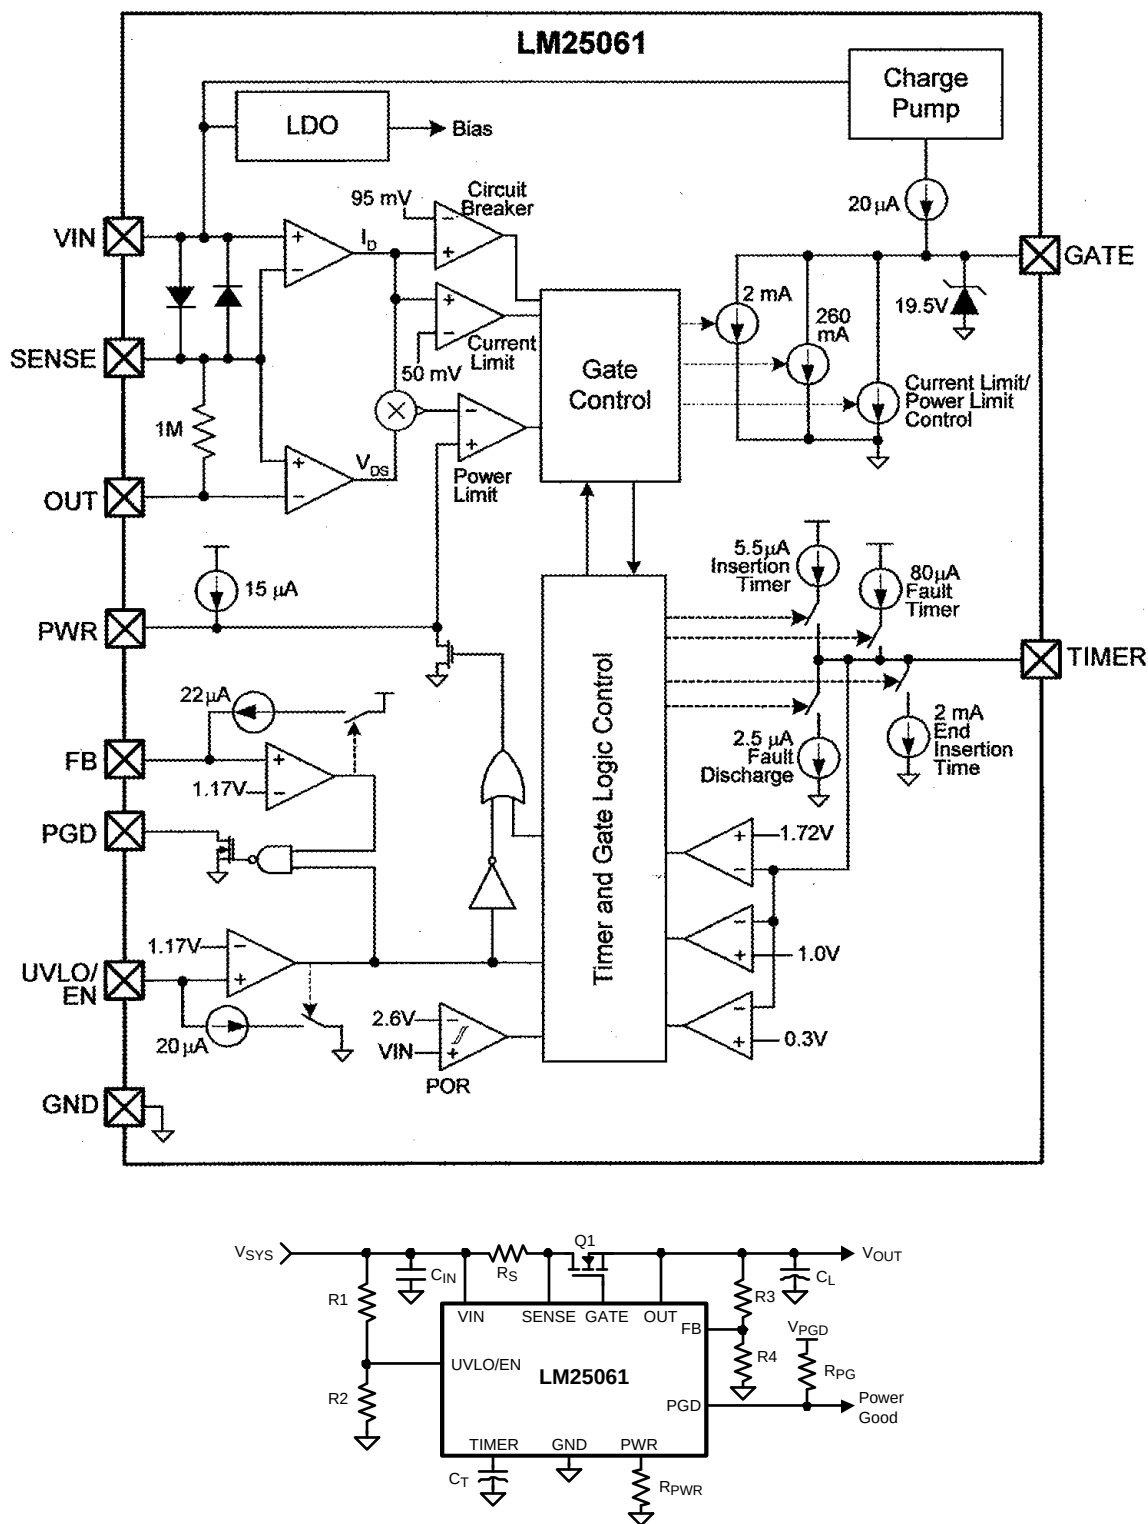
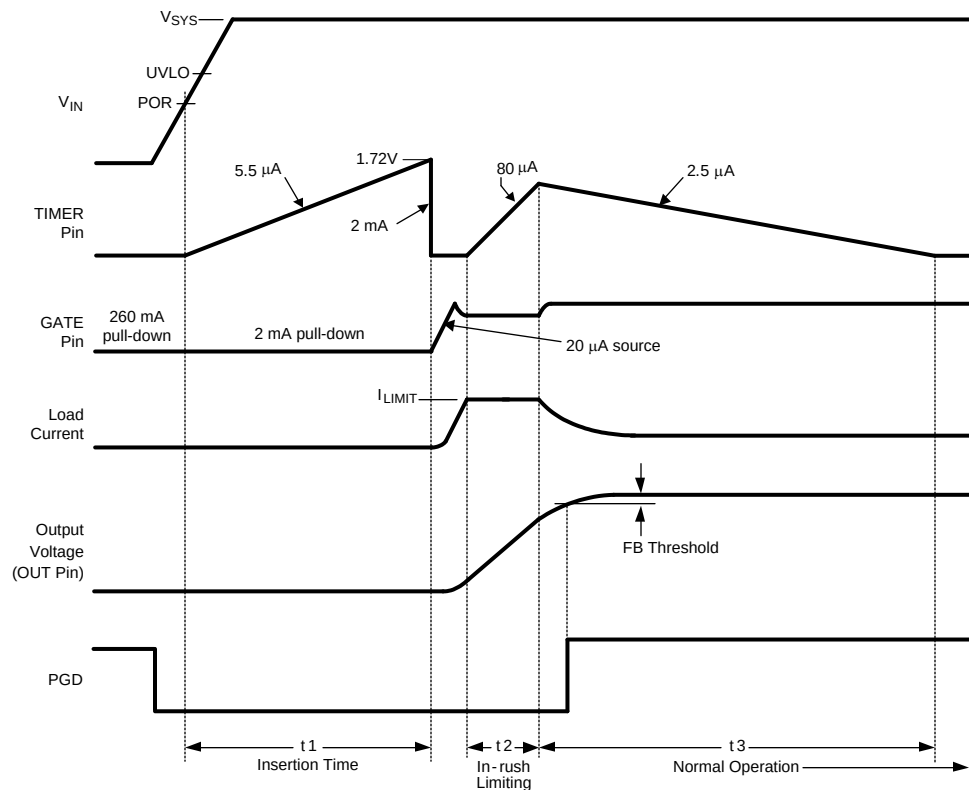

Figure 21. Basic Application Circuit
Figure 23. Power Up Sequence (Current Limit only)
The VIN operating range of the LM25061 is +2.9V to +17V, with a transient capability to 20V. Referring to the Block Diagram and Figure 21 and Figure 23, as the voltage at VIN initially increases, the external N-channel MOSFET (Q1) is held off by an internal 260 mA pull-down current at the GATE pin. The strong pull-down current at the GATE pin prevents an inadvertent turn-on as the MOSFET's gate-to-drain (Miller) capacitance is charged. Additionally, the TIMER pin is initially held at ground. When the VIN voltage reaches the POR threshold the insertion time begins. During the insertion time, the capacitor at the TIMER pin (C_T) is charged by a 5.5 μ A current source, and Q1 is held off by a 2 mA pull-down current at the GATE pin regardless of the VIN voltage. The insertion time delay allows ringing and transients at VIN to settle before Q1 is enabled. The insertion time ends when the TIMER pin voltage reaches 1.72V. C_T is then quickly discharged by an internal 2 mA pull-down current. The GATE pin then switches on Q1 when V_{SYS} exceeds the UVLO threshold. If V_{SYS} is above the UVLO threshold at the end of the insertion time, Q1 switches on at that time. The GATE pin charge pump sources 20 μ A to charge Q1's gate capacitance. The maximum voltage at the GATE pin is limited by an internal 19.5V zener diode.
As the voltage at the OUT pin increases, the LM25061 monitors the drain current and power dissipation of MOSFET Q1. In-rush current limiting and/or power limiting circuits actively control the current delivered to the load. During the in-rush limiting interval (t_2 in Figure 23) an internal 80 μ A fault timer current source charges C_T . If Q1's power dissipation and the input current reduce below their respective limiting thresholds before the TIMER pin reaches 1.72V the 80 μ A current source is switched off, and C_T is discharged by the internal 2.5 μ A current sink (t_3 in Figure 23). The in-rush limiting interval is complete when the load current reduces to the normal operating level. The PGD pin switches high when the output voltage exceeds the threshold programmed at the FB pin.
A charge pump provides the voltage at the GATE pin to enhance the N-Channel MOSFET's gate. During normal operating conditions (t_3 in Figure 23) the gate of Q1 is held charged by an internal $20\ \mu\text{A}$ current source. The voltage at the GATE pin (with respect to ground) is limited by an internal 19.5V zener diode. See the graph "GATE Pin Voltage". Since the gate-to-source voltage applied to Q1 could be as high as 19.5V during various conditions, a zener diode with the appropriate voltage rating must be added between the GATE and OUT pins if the maximum V_{GS} rating of the selected MOSFET is less than 19.5V . The external zener diode must have a forward current rating of at least $260\ \text{mA}$.
During the insertion time (t_1 in Figure 23) the GATE pin is held low by a $2\ \text{mA}$ pull-down current. This maintains Q1 in the off-state until the end of t_1 , regardless of the voltage at VIN or UVLO.
Following the insertion time, during t_2 in Figure 23, the gate voltage of Q1 is modulated to keep the current or power dissipation level from exceeding the programmed levels. While in the current or power limiting mode the TIMER pin capacitor is charging. If the current and power limiting cease before the TIMER pin reaches 1.72V the TIMER pin capacitor then discharges, and the circuit enters normal operation.
The series pass MOSFET (Q1) is enabled when the input supply voltage (V_{SYS}) is greater than the programmable under-voltage lockout (UVLO) level. Typically the UVLO level at V_{SYS} is set with a resistor divider (R1-R2) as shown in Figure 21. Referring to the Block Diagram when V_{SYS} is below the UVLO level, the internal 20 μ A current source at UVLO is enabled, and Q1 is held off by the 2 mA pull-down current at the GATE pin. As V_{SYS} is increased, raising the voltage at UVLO above its threshold the 20 μ A current source at UVLO is switched off, increasing the voltage at UVLO, providing hysteresis for this threshold. With the UVLO pin above its threshold, Q1 is switched on by the 20 μ A current source at the GATE pin if the insertion time delay has expired. See the Applications Section for a procedure to calculate the values of the threshold setting resistors (R1-R2). The minimum possible UVLO level at V_{SYS} can be set by connecting the UVLO pin to VIN. In this case Q1 is enabled after the insertion time.
The Power Good indicator pin (PGD) is connected to the drain of an internal N-channel MOSFET capable of sustaining 17V in the off-state, and transients up to 20V. An external pull-up resistor is required at PGD to an appropriate voltage to indicate the status to downstream circuitry. The off-state voltage at the PGD pin can be higher or lower than the voltages at VIN and OUT. The PGD pin switches high when the voltage at the FB pin exceeds its threshold. Typically the output voltage threshold is set with a resistor divider (R3-R4) as shown in Figure 21, although the monitored voltage need not be the output voltage. Any other voltage can be monitored by connecting R3 to that voltage as long as the voltage at the FB pin does not exceed its maximum rating. Referring to the Block Diagram, when the voltage at the FB pin is below its threshold, the internal 22 µA current source at FB is disabled. As the output voltage increases, taking FB above its threshold, the current source is enabled, sourcing current out of the pin, raising the voltage at FB to provide threshold hysteresis.
(Refer to Figure 21)
A) Insertion Delay - Upon applying the system voltage (V_{SYS}) to the circuit, the external MOSFET (Q1) is held off during the insertion time (t_1 in Figure 23) to allow ringing and transients at V_{SYS} to settle. Since each backplane's response to a circuit card plug-in is unique, the worst case settling time must be determined for each application. The insertion time starts when V_{IN} reaches the POR threshold, at which time the internal $5.5 \mu\text{A}$ current source charges C_T from 0V to 1.72V. The required capacitor value is calculated from: